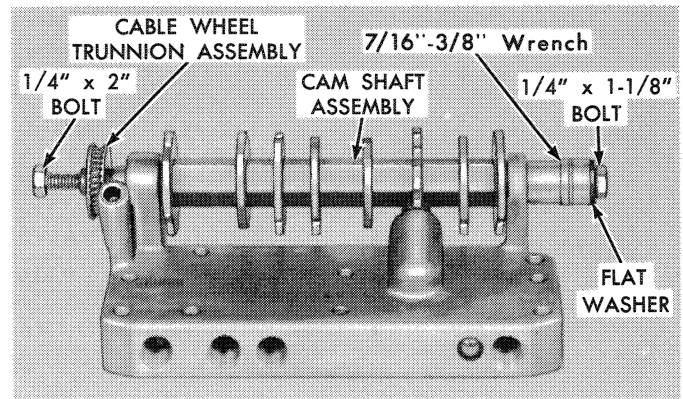

Figure 79
6. Remove the trunnion and cable wheel assembly from the right end of the camshaft by inserting a 1/4" – 20 x 2" standard thread set screw to force this assembly out of the shaft, as shown in Figure 79.
7. To remove the trunnion from the left end of the camshaft, insert a 1/4" – 20 x 1-1/8" coarse thread, heat-treated bolt supported by a 7/16" x 3/8" drive, socket, and flat washer, and withdraw the trunnion from the shaft, as shown in Figure 79.